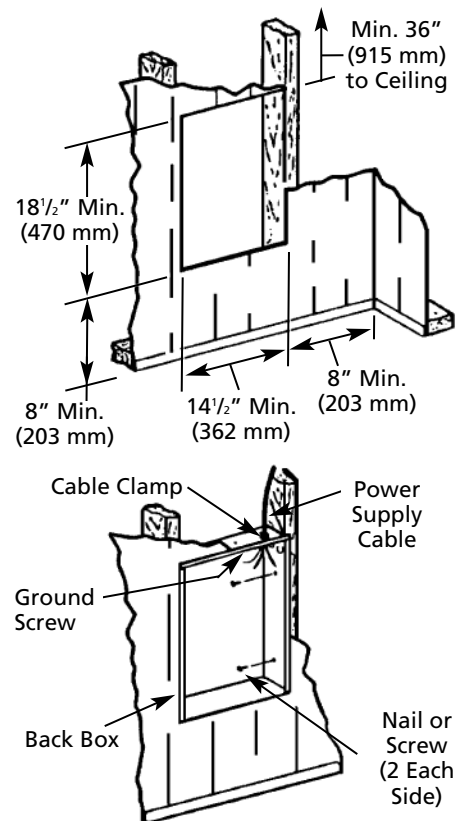

Figure 3 – Locating Recessed Back Box in Existing Construction
1. Provide a wall opening 14 1/2" (362 mm) wide x 18 1/2" (470 mm) high at the desired mounting height, but no closer than 8" (203 mm) to any adjacent wall or 36" (915 mm) to ceiling (See Figure 3).